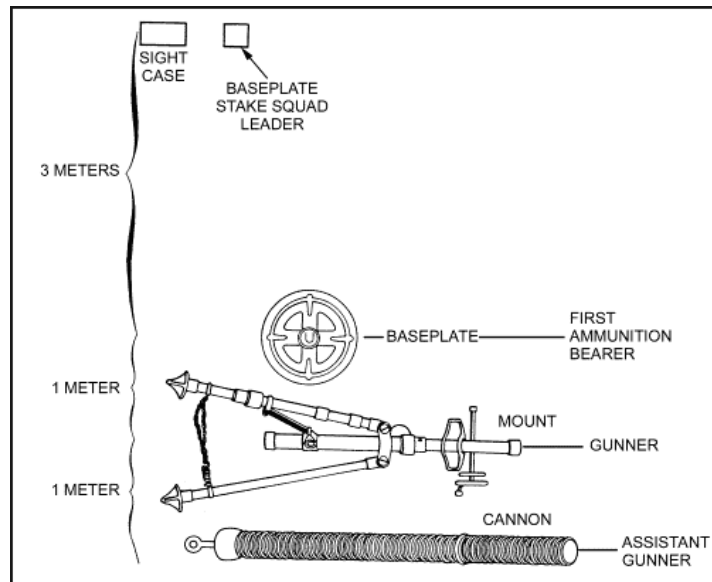

Figure 5-6. Layout of equipment.
- (1) The rotatable socket cap moves freely and has a light coat of oil.
- (2) The ribs and braces are free from breaks and dents, and the inner ring is secured to the outer ring (M23A1 baseplate).
e. The *squad leader* supervises the conduct of squad drill and is responsible for supervising the laying out of the equipment as shown in Figure 5-6. The equipment is placed out the same for the gunner's examination.